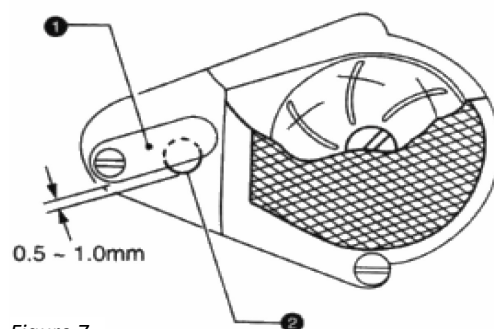

Figure 7
When it's running at low speed, observe the oil window. If you don't see the oil spraying, please turn the oil-supplied regulating plate (1) and cover the oil hole (2). See Fig. 7.